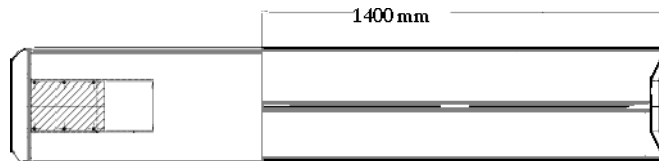

Figure 1-28 Place level along the length of the cradle
- 5.) Place the level in the center of the cradle and check for level (see Figure 1-28). The width and the length of the cradle must be level when finished. Re-tighten all adjuster lock rings.
- 1.) Extend the cradle into the gantry 1400 mm (see Figure 1-28, on page 41).